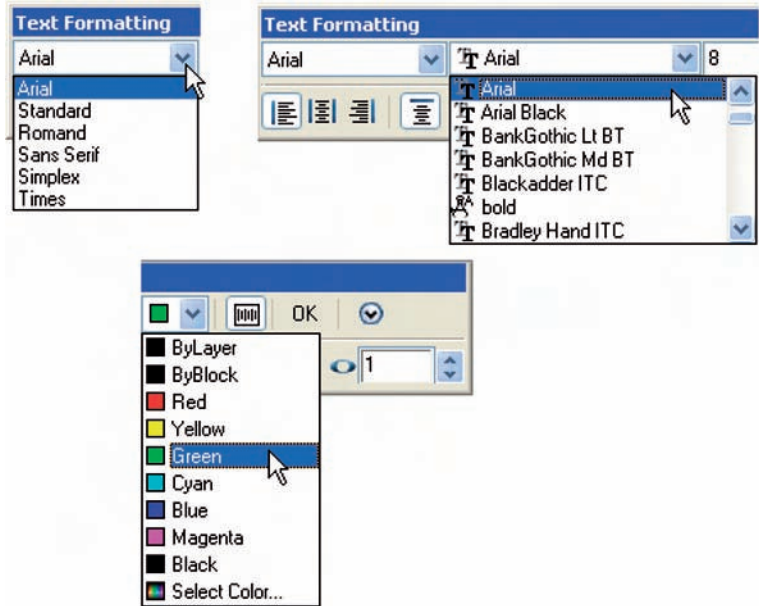

Fig. 6.37 The popups from the **Text Formatting** dialog
Example – Multiline Text (Fig. 6.37)
2. Changes may be made to various aspects of the text being *entered* making choices from the various popup lists in the **Text Formatting** dialog. These popups are shown in Fig. 6.37.